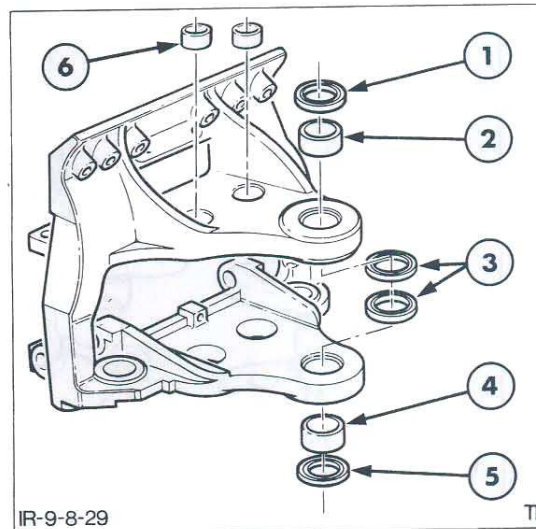

Figure 29
4. Inspect the two bushings and four seals in the mainframe/carriage on which the swing post pivots and replace if necessary. Figures 29 and 31. If worn pry out the seals and remove the bushings using a suitable step plate and driver.
2. Inspect the two bushings and four seals in the carriage on which the swing post pivots and replace if necessary, Figure 29. If worn pry out the seals and remove the bushings using a suitable step plate and driver.